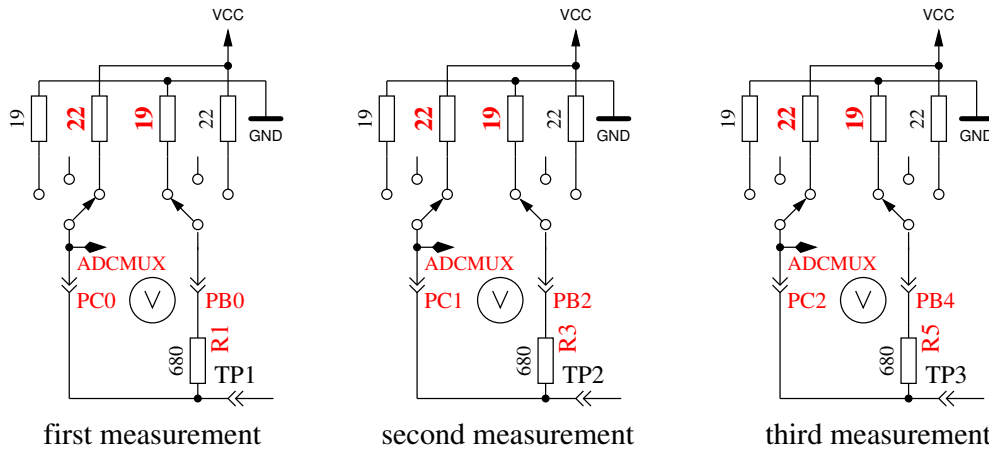

Figure 5.47: Measurement of internal resistance of Port C switched to VCC
9. **Measuring of internal resistance of port outputs switched to the VCC (+)signal.** The needed current is generated with to GND connected 680Ω resistors . It are the same measurements as those in test 8 to the other side as you can see in Figure 5.47. With the following steps the resistance is computed: To get the current, the following is computed: $(VCC - (resultoftest8) - (resultoftest9))/680$. To get both resistor values, the voltage (result of test 8 or 9) is divided by this current. The result for this test will then be notified in row 1 with the text "RI_Hi=", the resistance value (Ω) to the GND side is displayed in row 2 with the text "RI_Lo=". Both results will be written to the EEprom memory and will be used for further measurement.